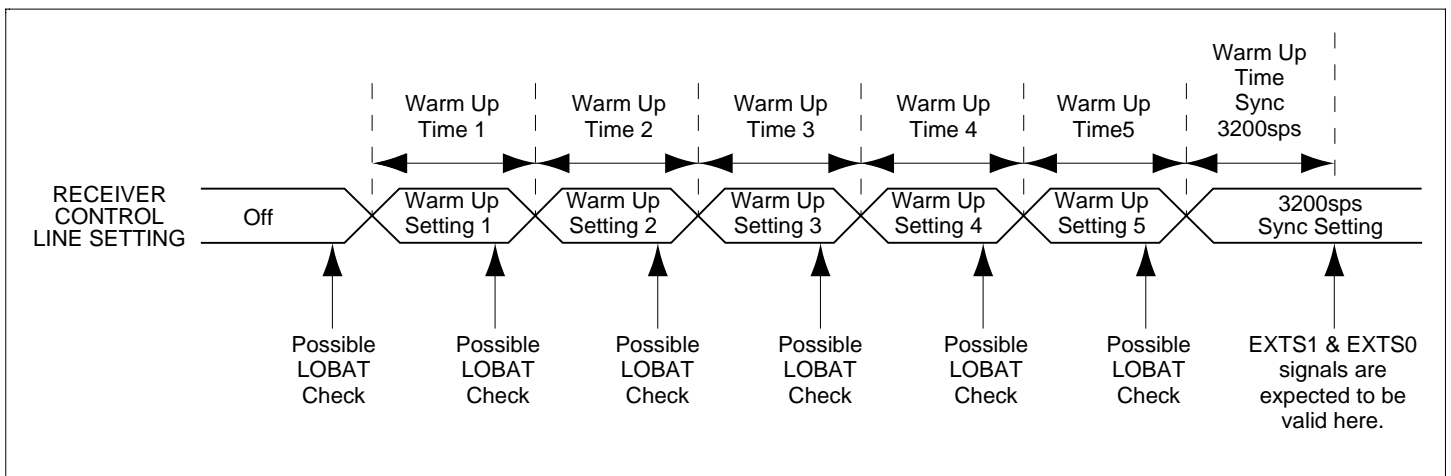

Figure 12-10 Host Initiated Receiver Warm Up Sequence
The host can cause the FLEX decoder to warm-up the receiver in three ways: (1) by turning on the FLEX decoder by setting the ON bit in the control packet; (2) by requesting a noise detect by setting the SND bit in the roaming control packet; or (3) by requesting an A-word search by setting the SAS bit in the roaming control packet. When the FLEX decoder warms up the receiver in response to a host request, the first warm up setting, if enabled, is applied to the receiver control lines for the amount of time programmed for that setting. Each subsequent warm up setting is applied to the receiver control lines for their corresponding time until a disabled warm up setting is found. Once a disabled warm up setting is found, the “3200sps Sync Setting” (for ON and SND warm ups) or the “1600sps Sync Setting” (for SAS warm ups) is applied to the receiver control lines and the decoder does not expect valid signal until after the “3200sps Sync Warm Up Time” (for ON, SND, and SAS warm ups) has expired. In figure 12-10 the receiver warm up sequence when the host initiates a warm-up sequence and when all warm up settings are enabled is shown.